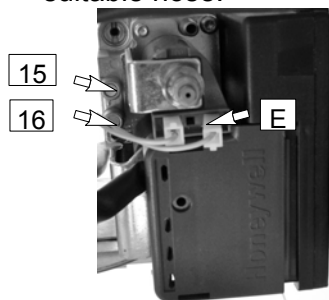

Figure 15.4
- Loosen the internal screw 15 (Figure 15.4) on the Outlet Pressure Test Point of the Gas Valve and connect a pressure gauge using a suitable hose.
removing the electrical connector E (Figure 15.4).